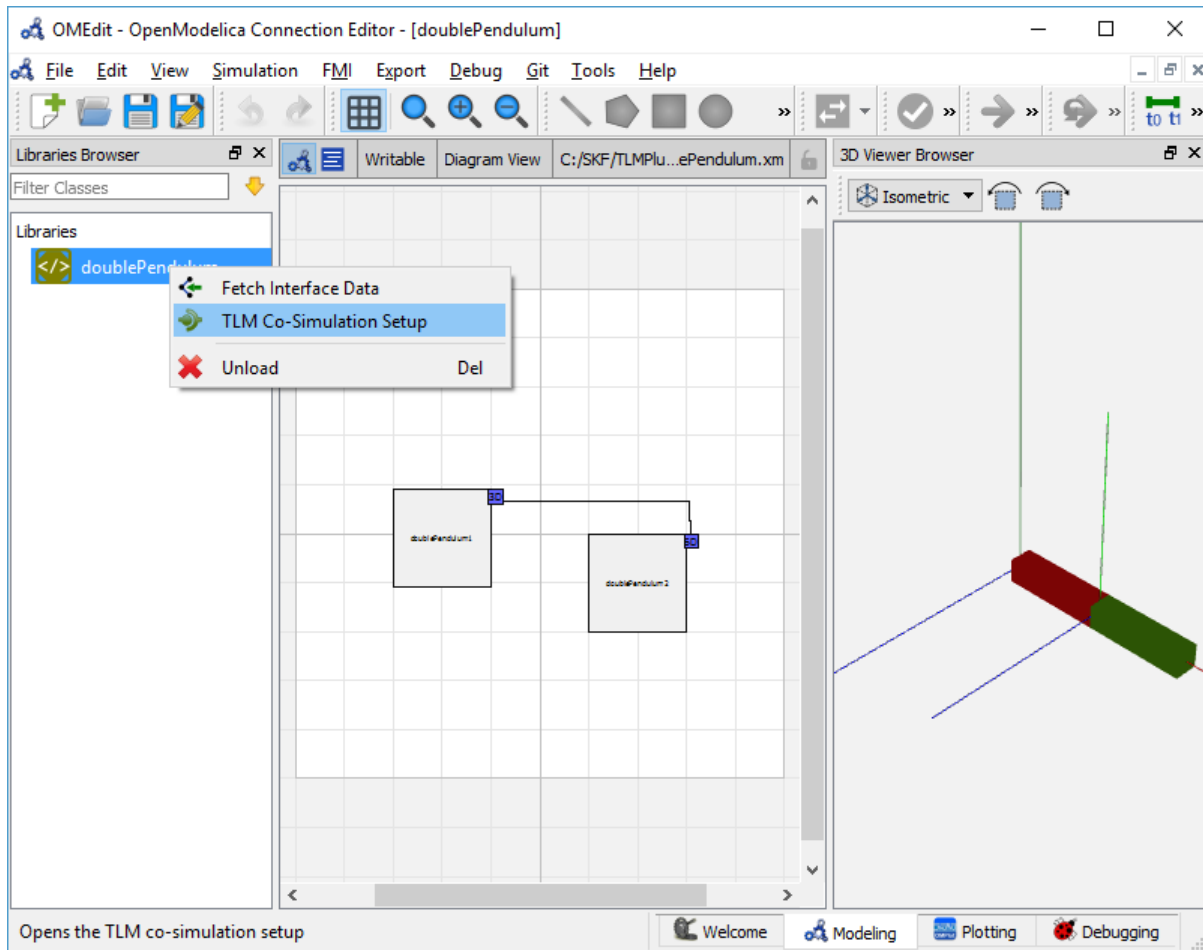

Figure 9.2: Co-simulating and Fetching Interface Data of a composite model from the Pop up Menu .
- Right click the composite model in the **Libraries Browser** and choose **TLM Co-Simulation setup** from the popup menu (see Figure 9.2)
- Right click the composite model in the **Library Browser** and choose **Fetch Interface Data** from the popup menu (see Figure 9.2).